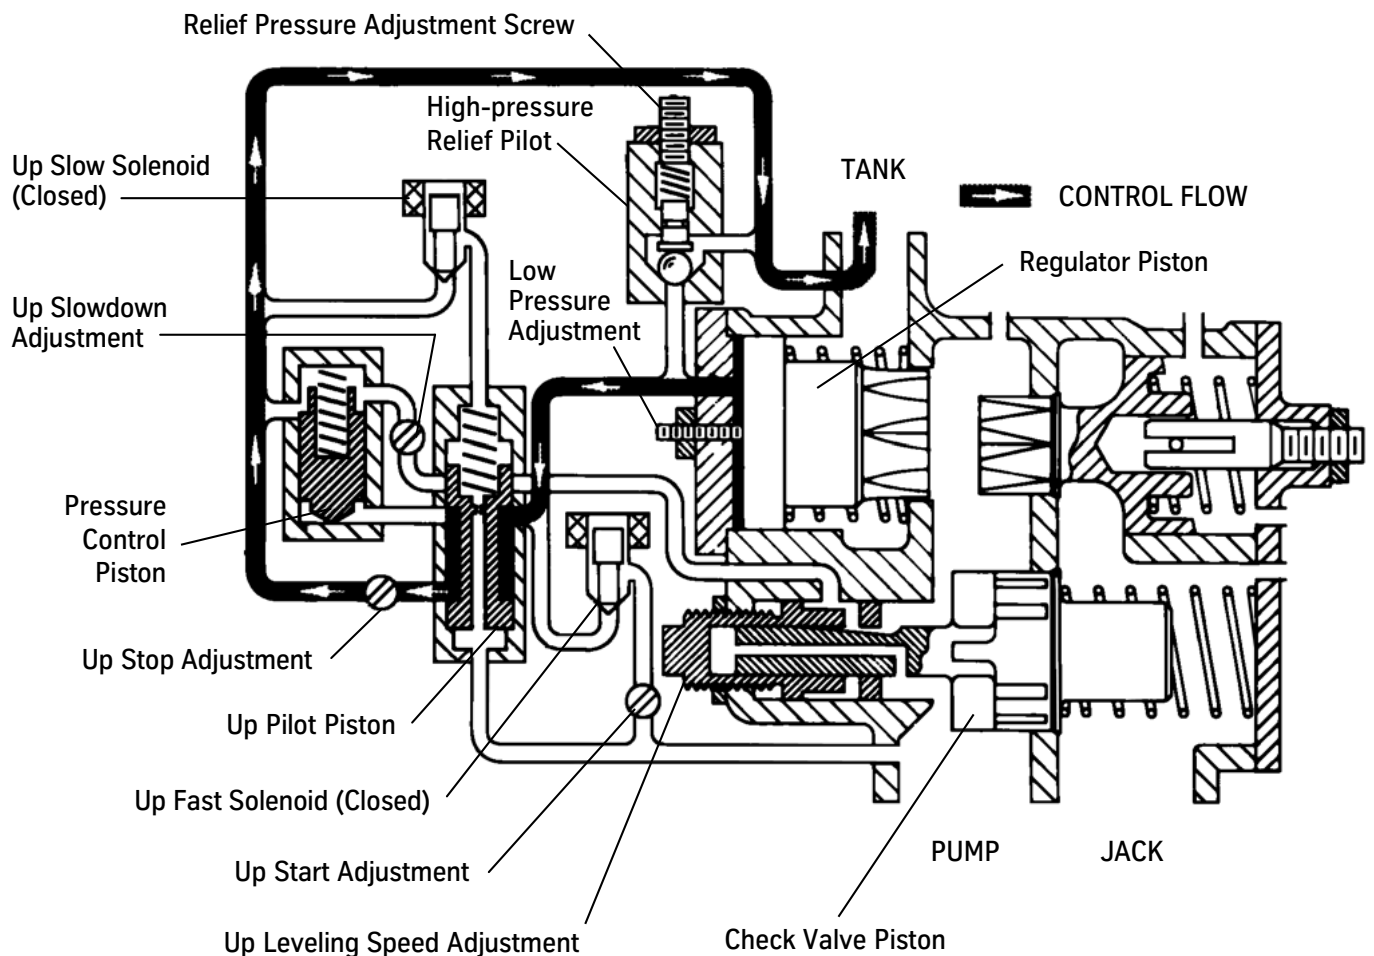

Figure 10 - Up Stop Diagram
1. The up slow solenoid de-energizes to stop the car. The pump runs slightly longer on a timed delay to provide a valve stop instead of a pump stop. See Figure 10.